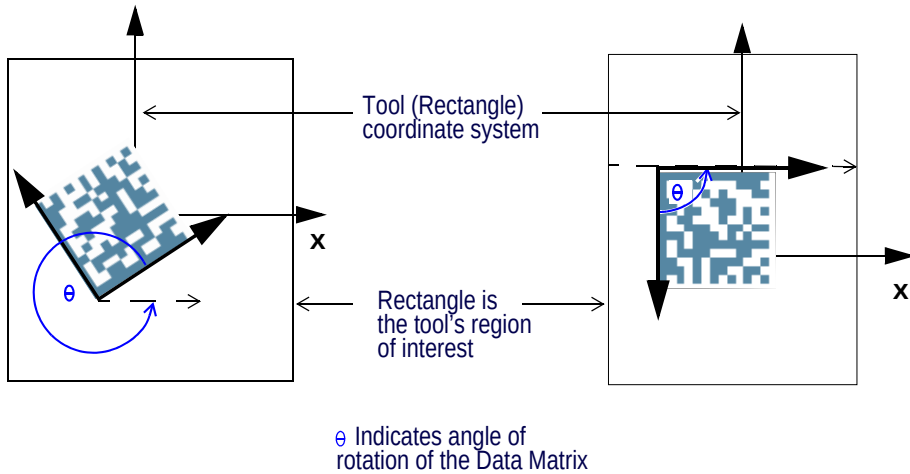

Figure 423 Data Matrix Angle of Orientation
- **Angle:** The angle of rotation of a data matrix is the counterclockwise angle between the data matrix's X-Axis and the X-Axis of the Rectangle, i.e. the region of interest. See examples in Figure 423.